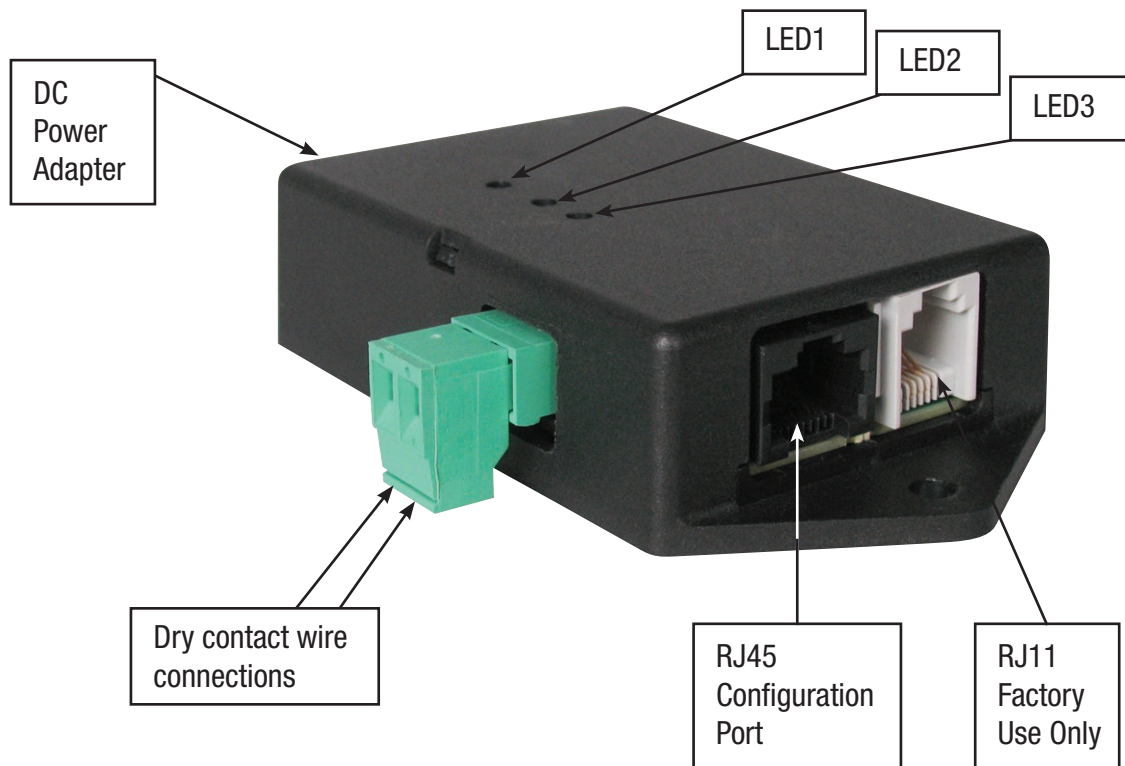

Figure 2 – Master Clock Synchronizer connections
1. Connect power to the module using the DC power adapter supplied with the module from an AC wall outlet. Connect the adapter to the port indicated in figure 2.
2. Connect your time setting dry contacts to the module indicated in Figure 2.